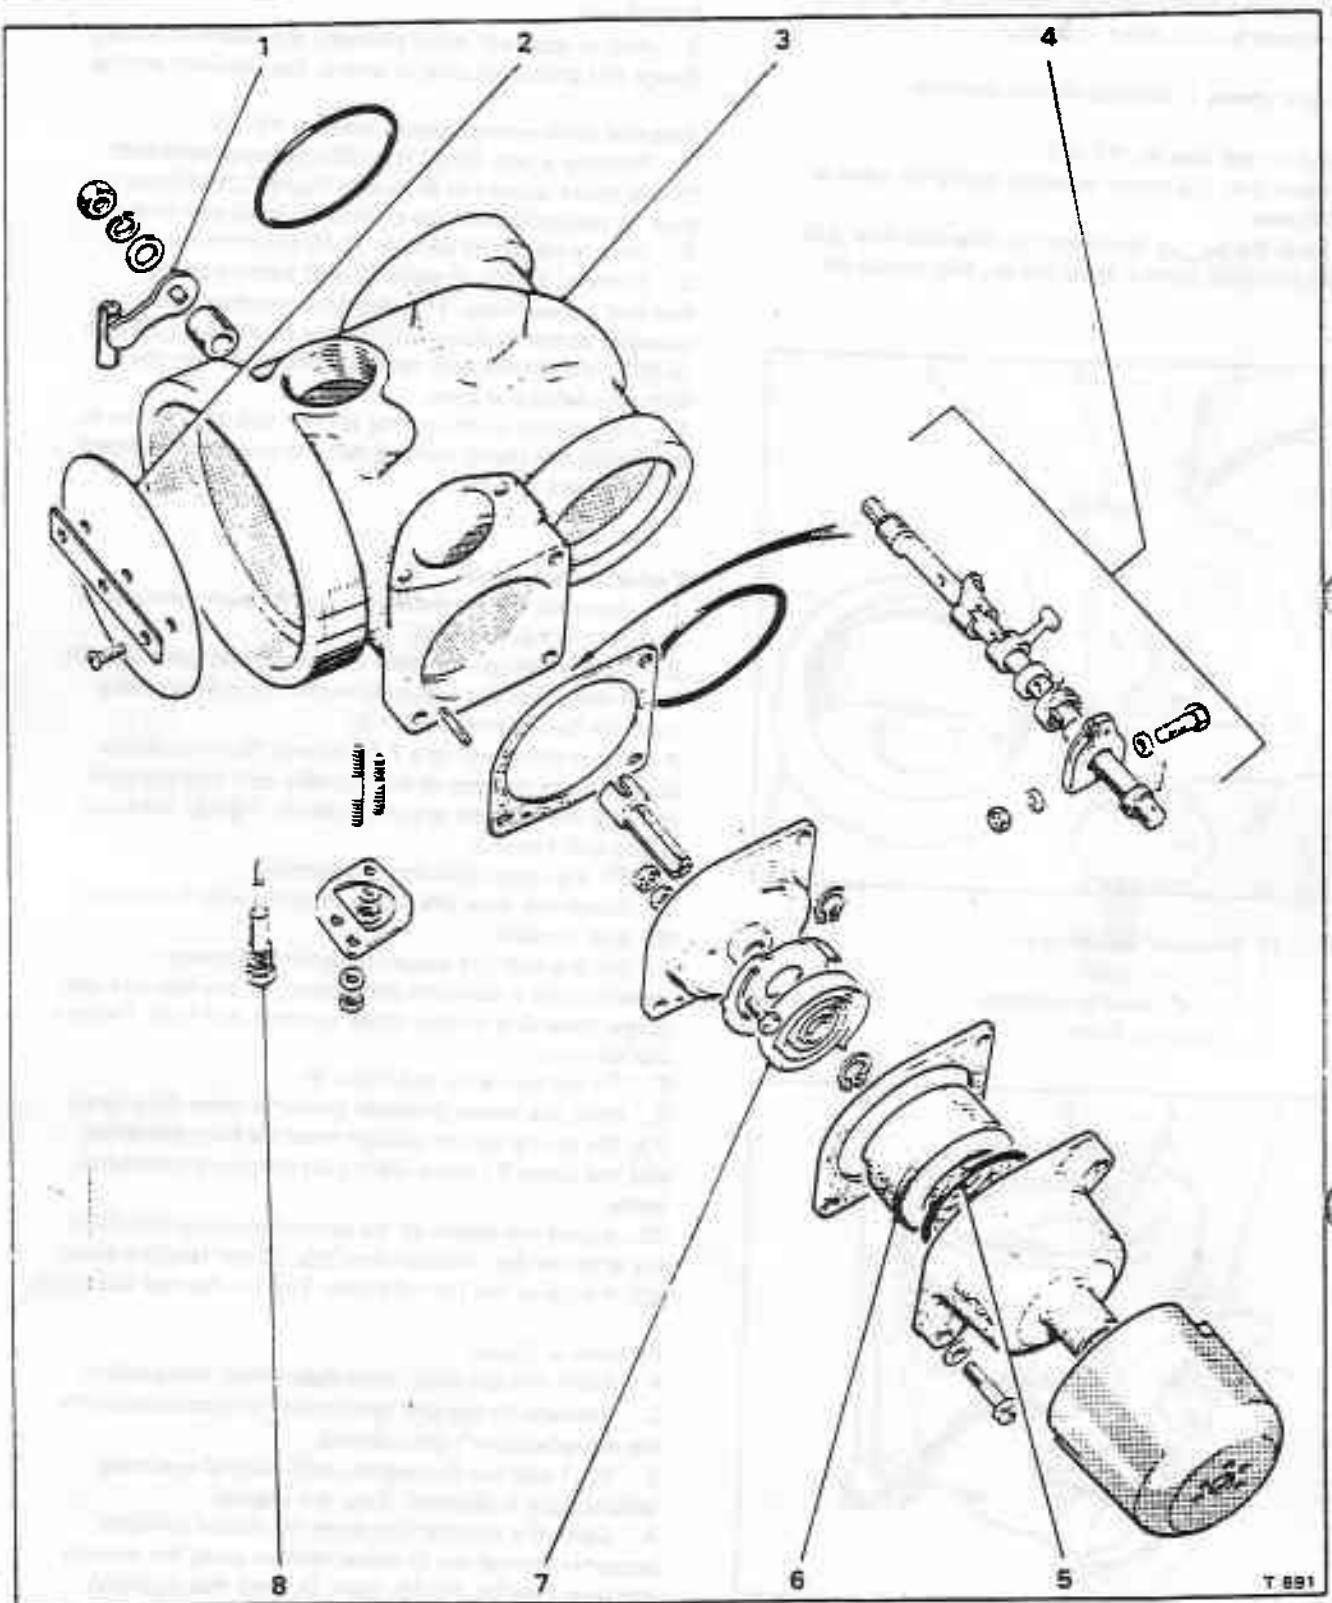

Fig. K5-16 Automatic choke assembly
Automatic choke assembly – To dismantle (see fig. K5-16)
12. Dismantle the spindle noting the relative position of the components (see fig. K5-16).